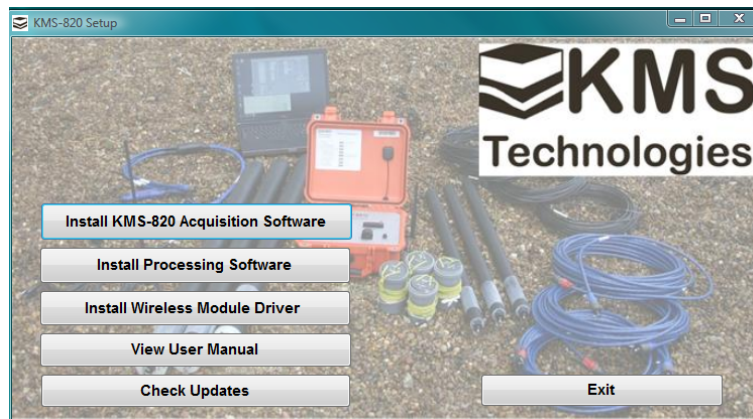

Figure 23 - KMS-820 Setup window
3. The KMS-820 Setup window will appear, see Figure 23.